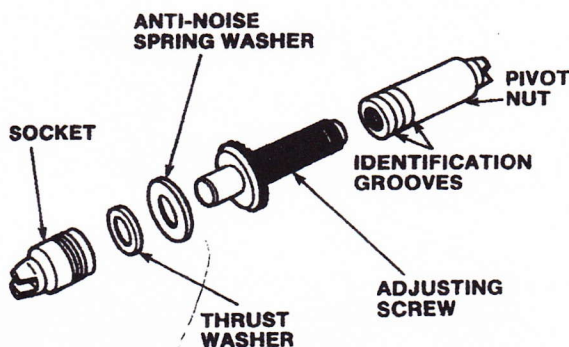

FIGURE 39-31 Exploded view of adjusting screw assembly.
6. Disassemble the adjusting screw assembly (Figure 39-31) and clean the parts in a suitable solvent. Make sure the adjusting screw threads into the pivot nut over its complete length without sticking or binding. Check that none of the adjusting screw teeth are damaged, particularly on self-adjusting brakes. Lubricate the adjusting screw threads with brake lubricant, being careful not to get any on the adjusting teeth, and reassemble. Most adjusting screw assemblies use a thrust washer between the adjusting screw and socket. Some might also have the antinoise spring washer. Thread the adjusting screw in as far as it goes.